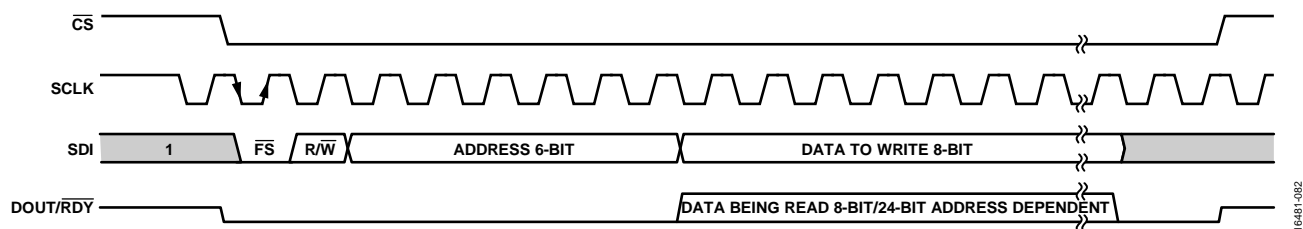

Figure 86. SPI Basic Read/Write Frame
The format of the SPI read or write is shown in Figure 86. The MSB is the first bit in both read and write operations. An active low frame start signal (FS) begins the transaction, followed by the R/W bit that determines if the transaction being carried out is to a read (1) or a write (0). The next six bits are used for the address, and the eight bits of data to be written follow. All registers in the AD7768-1 are 8 bits in width, except for the ADC_DATA register (Register 0x2C), which is 24 bits in width. In the case where $\overline{\text{CS}}$ is tied low, the last SCLK rising edge completes the SPI transaction and resets the interface. When reading back data with $\overline{\text{CS}}$ held low, it is recommended that SDI idle high to prevent an accidental reset of the device where SCLK is free running (see the Reset section).